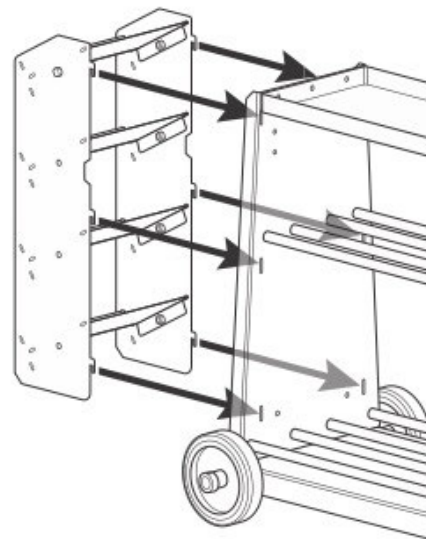

Figure 4-10
- Insert the six hook tabs on the Angled Tray Assembly into the vertical slots on the Side Panel (see Figure 4-10). Be sure to use the Side Panel that does not have the handle. When all six hook tabs are inserted, press the Angled Tray Assembly down to engage the hooks and attach to the Side Panel.